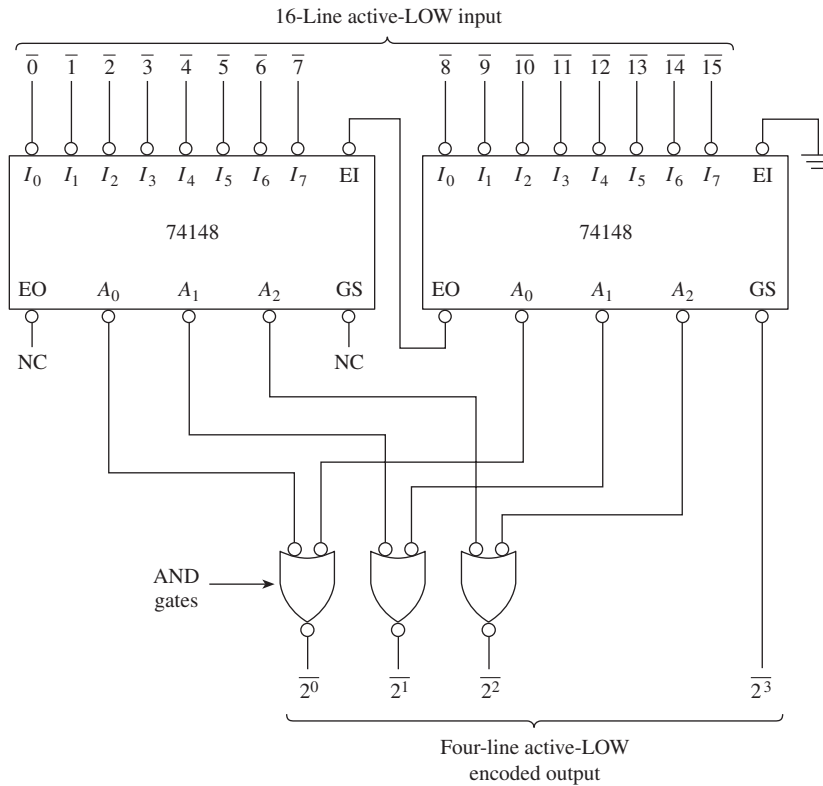

Figure P17
- C** 17. Two 74148s are connected in Figure P17 to form an active-LOW input, active-LOW output hexadecimal (16-line-to-4-line) priority encoder. Show the logic levels on each line in Figure P17 for encoding an input hexadecimal C (12) to an output binary 1100 (active-LOW 0011).